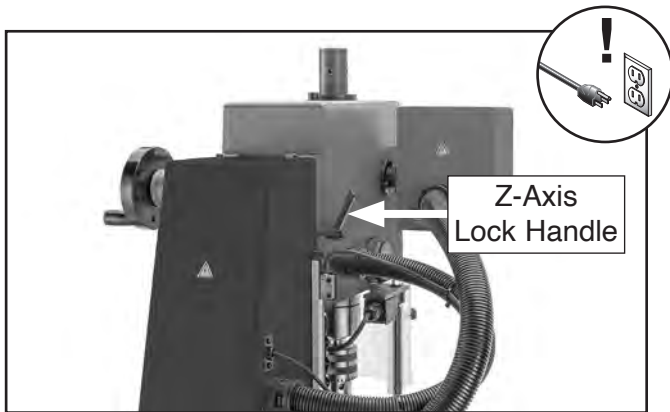

Figure 36. Location of Z-axis lock handle (G0983 shown).
2. Loosen Z-axis lock handle shown in **Figure 36**.